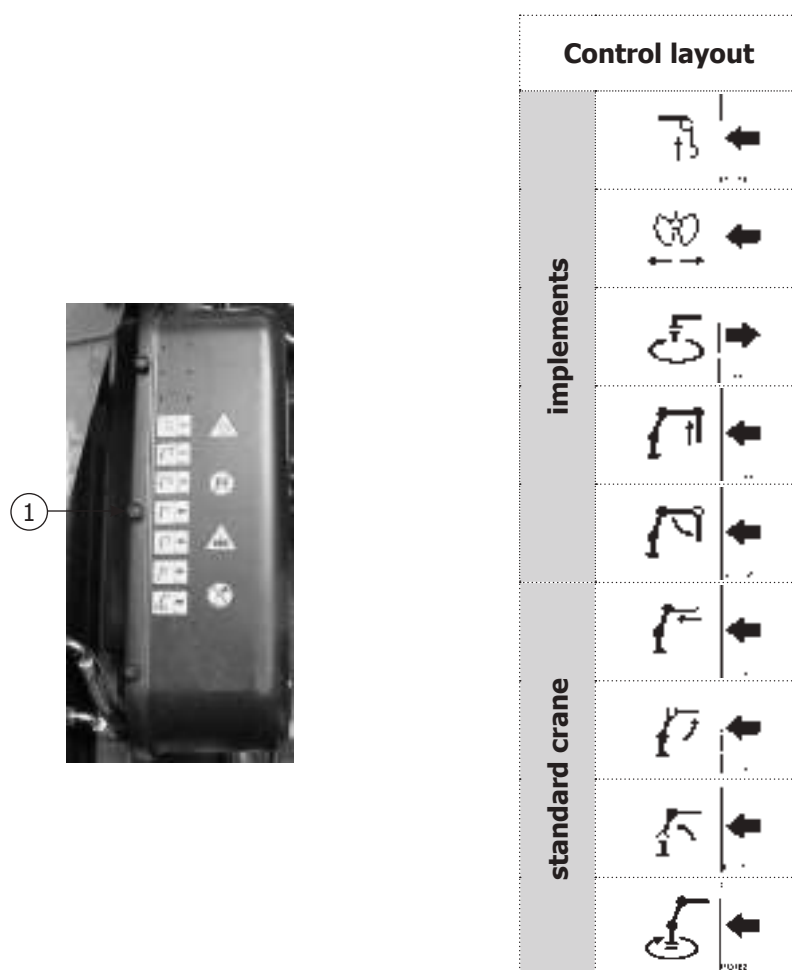

Fig. 11.2
- remove the carter shown in fig. 11.2 - position 1;